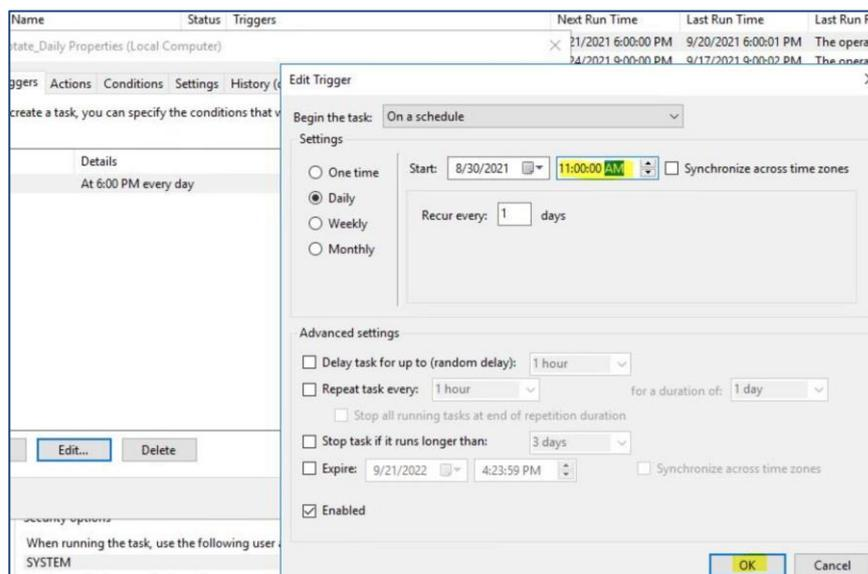

Figure 13. Windows Task Scheduler – **Edit Trigger** window
3. **Edit** the Start time of selected task according to facility’s standard working hours and click **OK** to save the configuration as per Figure 13.